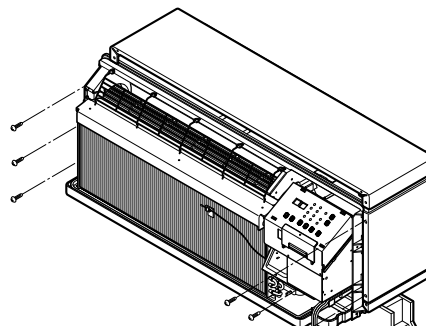

Figure 19
3. Slide the unit into the wall sleeve and secure with 6 screws through the unit flange holes. (See Figure 19)